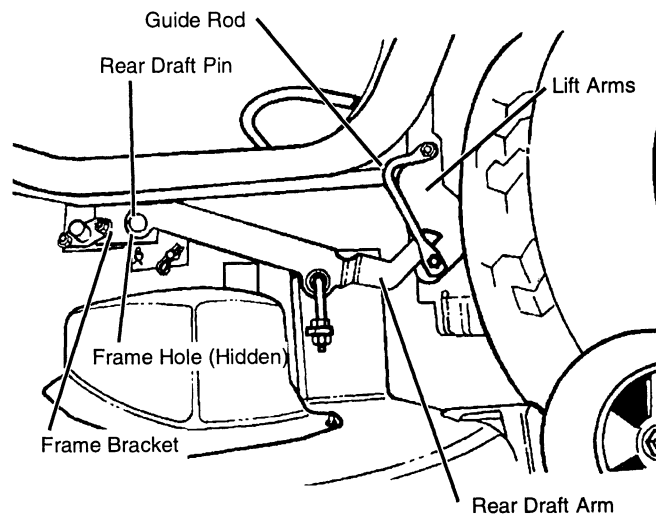

FIG. 7
- Position the deck so the rear draft arms are between the gold colored guide rods and the lift arms on the outboard side. (See Fig. 7)
- Lift the mower deck. Place 50 mm (2 in.) blocks under the R.H. and L.H. rear edges of the deck enabling you to align the holes in the front of the rear draft brackets with the holes in the frame bracket. (See Fig. 7)